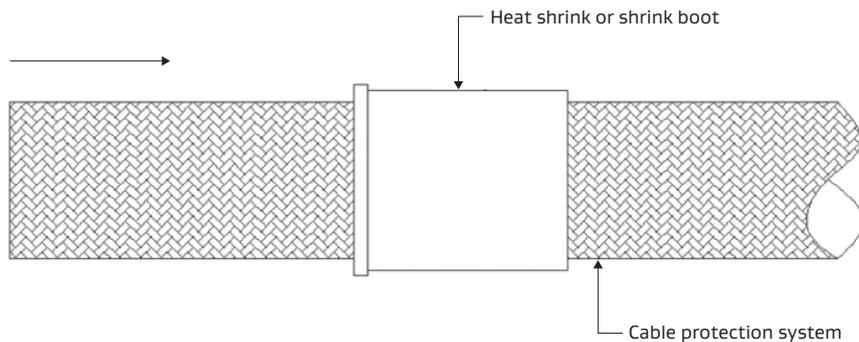

Figure 7: Sliding the heat shrink or shrink boot
2. Slide the heat shrink or shrink boot onto the cable protection system, near the first termination side (Figure 7).